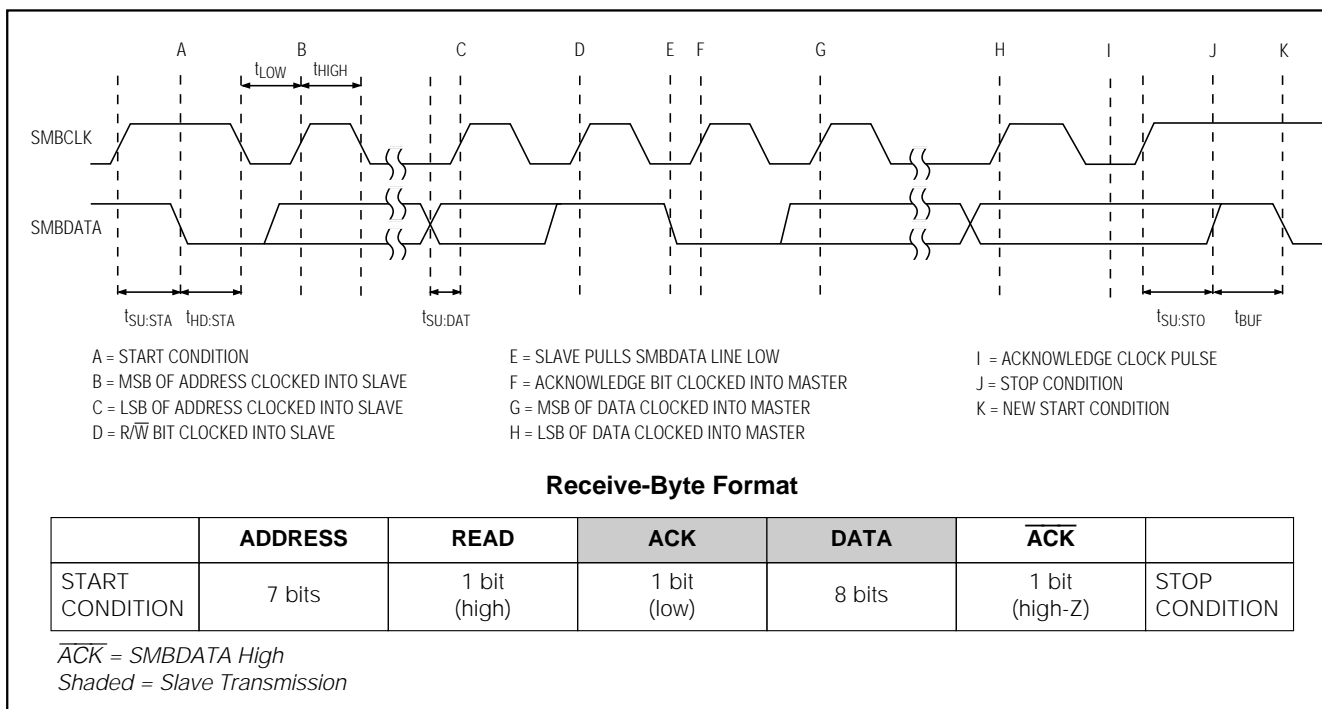
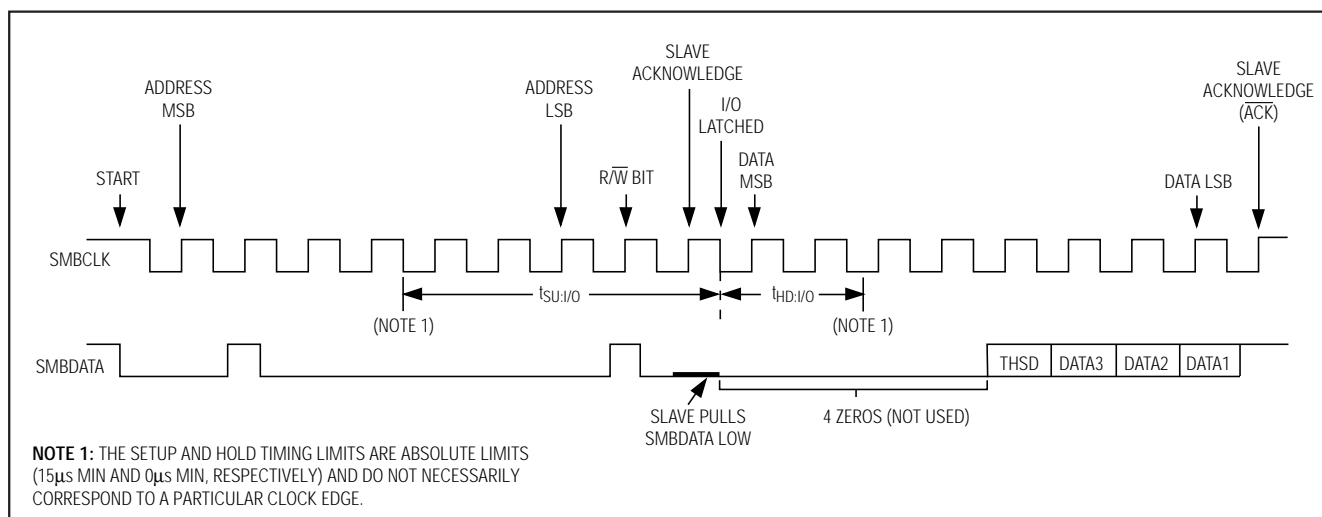

Figure 2b. SMBus Receive-Byte Timing Diagram and Format
Figure 4. I/O Read Timing Diagram
**Note 8:** Refer to Figure 4 for I/O setup and hold timing parameter definitions.
If the MAX1661/MAX1662/MAX1663 receives its correct slave address, followed by R/W high, the device becomes a slave transmitter (Figure 2b). After receiving the address data, the device generates an acknowledge during the acknowledge clock pulse and drives SMBDATA in sync with SMBCLK. The SMB protocol requires that the master terminate the read transmission by not acknowledging during the acknowledge bit of SMBCLK. See Table 3 for receive-byte data format. Figure 4 shows the complete receive-byte operation timing diagram.
The logic states of the three I/O pins can be read over the serial interface (Table 3). The state of the I/O pins is sampled at the falling edge of the SMBCLK pulse that follows the R/W bit and acknowledge bit (Figure 4). The states of the I/O bits in the status register reflect the